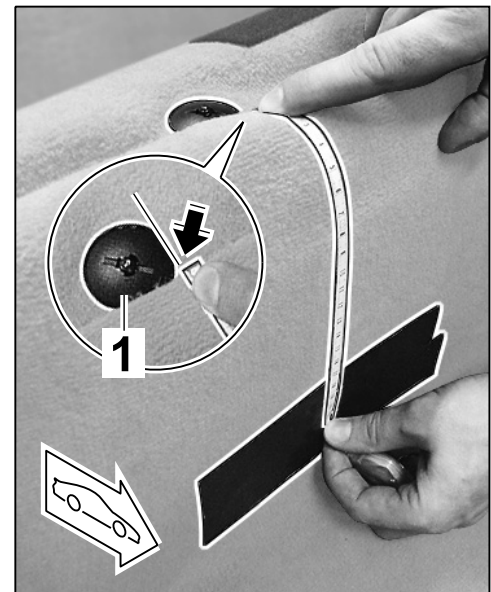

Figure 5
2.3.1 Place measuring tape at the edge of the carpet ⇒ *Figure 5* -arrow-.